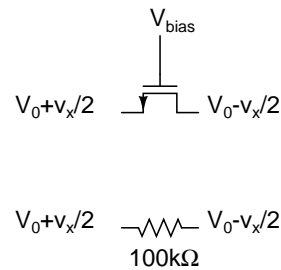

Figure 3: Problem 3
3. (For this problem, The minimum usable dimension is $0.25\ \mu\text{m}$.) A MOSFET is used as a $200\ \text{k}\Omega$ resistor (Fig. 3) $V_0 = 0.5\text{ V}$ and v_x is restricted to 0.2 V . The nonlinear part of the current in the resistor should be at most 5% . Calculate the gate bias V_{bias} and the dimensions of the transistor. If a linear resistive material with a sheet resistance of $8\ \Omega/\text{sq.}$ is available, what would be its dimensions? What is the motivation for using a transistor instead of a resistive material?